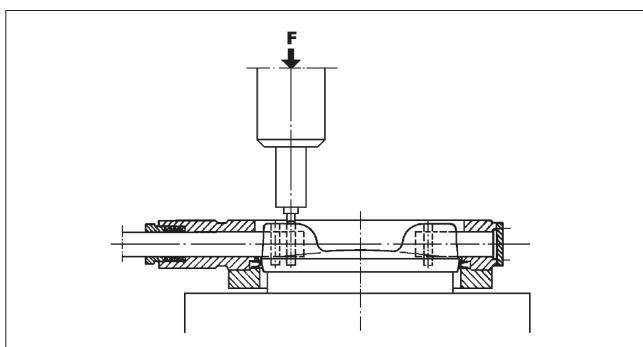

Fig. 18 Pressing the pins
- Press the shafts into the disc drillings. Align the pin holes. The shaft (5) position against the disc must be according to Figure 18.
- Support the disc well in a horizontal position during mounting of the pins. Push the new pins into the holes and press them in a press to final form (see Fig. 18). Use slightly larger pressing tool than the pin diameter. See Table 7 for forces.